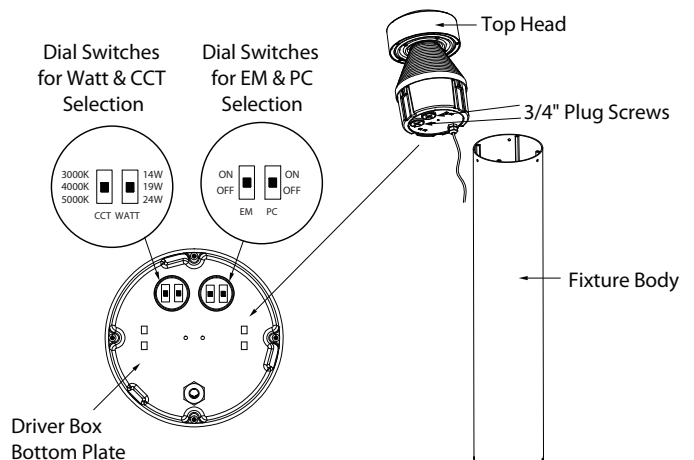

Fig 4
5. Remove the 2# 3/4" plug screws, and select desired wattage & CCT, select desired EM & PC on/off, through the dial switches on the driver box bottom plate. Fig. 4